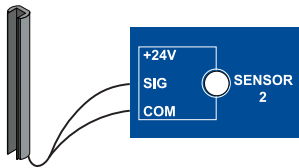

Figure 44. Sensor Connection
4. Install the wires into input Sensor #1, Sensor #2, or Input #1, or #2 (not #3) on the SmartCNX controller (Figure 44). Make sure to connect to a Sensor COM port for switched common for monitoring purposes.